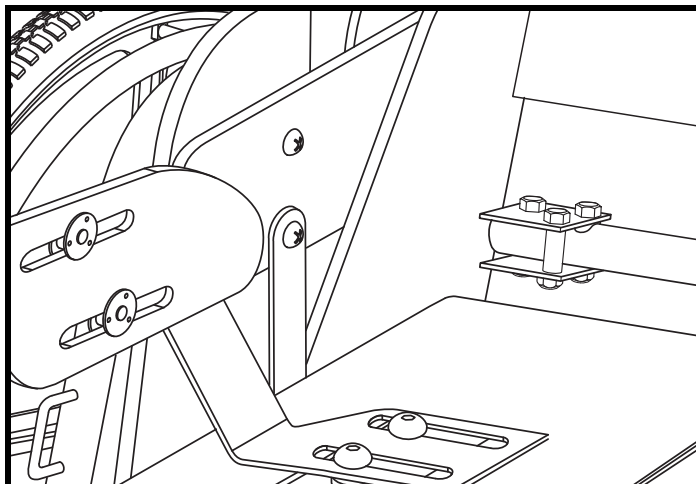

Figure 34. Kids FAST Adductors
1. Slotted adductor brackets should always be adjusted as far apart as possible. This will allow the seat cushion to be properly installed. See **figure 34**.